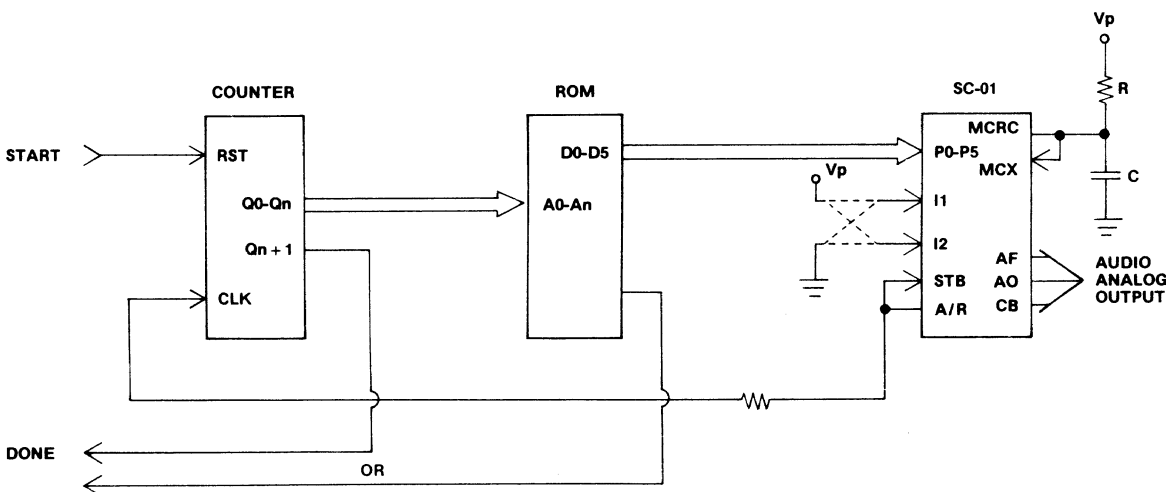

Figure 8. Single Message System
**Single Message System:** See Figure 8. When the counter is released (START is TRUE), the message is clocked out of the ROM by the A/R signal. The system must be stopped when DONE is TRUE.